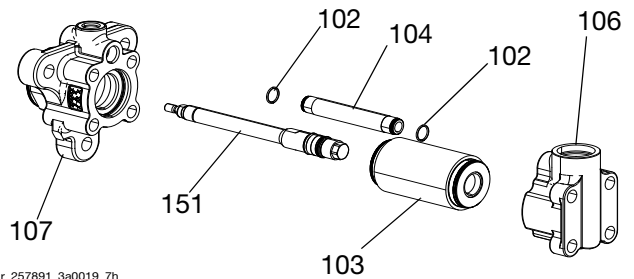

FIG. 13
7. Remove inlet housing (106) from pump cylinder (103). Remove pump crossover tube (104) and o-rings (102). See FIG. 13.